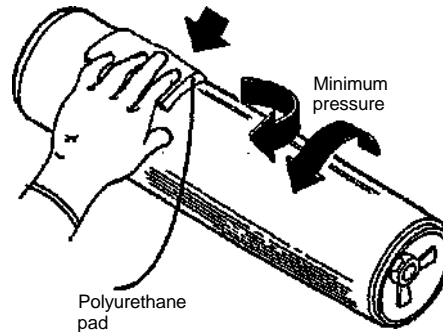

Figure 1. Washing the Drum
5. (Figure 1): Wash the drum from end to end, using a circular motion.